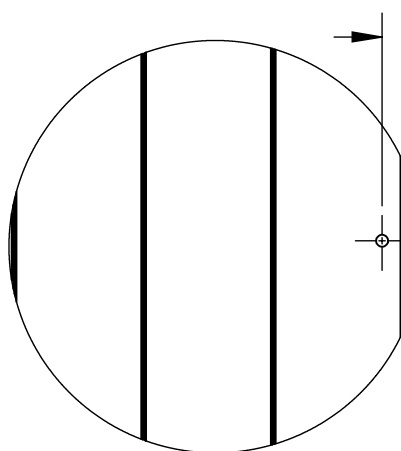

FIGURE 1
**Step 1** At the desired height for the handle, mark the gate 5/8" (.625) in from the edge for the first hole. (see figure 1)